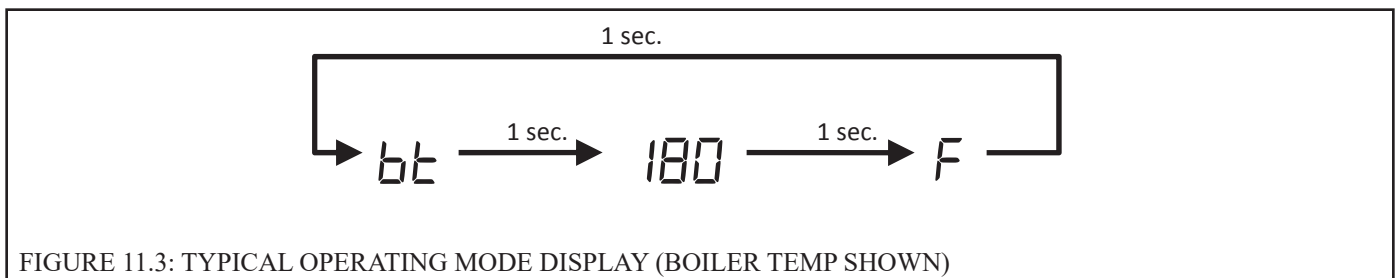

FIGURE 11.3: TYPICAL OPERATING MODE DISPLAY (BOILER TEMP SHOWN)
- 2) Operating Mode - Provides additional information about the current status of the boiler. Operating mode is entered by pressing the **I** button shown in Figure 11.0. When this button is first pressed in Status mode, the display will alternately display *bE* and the current boiler water temperature as shown in Figure 11.3. Pressing the **I** button again will display the next line item shown in Table 11.2. In the same manner it is possible to advance through all of the “parameters” shown in Table 11.2. To return to Status mode, press **I** repeatedly until *5E9* once again appears on the display. Alternatively, the control will return to Status mode if no key is touched for 30 minutes.
NOTE: In operating mode, holding either the \uparrow or \downarrow button while viewing a given parameter will keep the display on the actual reading. For example, pressing \uparrow while reading boiler temperature as shown in Figure 11.3 will keep the display on 180 for as long as this button is held. This makes it easier to view readings “live” if they are changing rapidly.